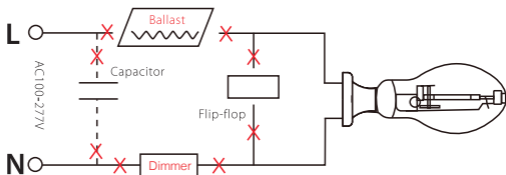

Fig 1
**Step: 1** Turn off the power before installation. Remove old ballasts/dimmers from existing lampholder as shown in Figure 1.